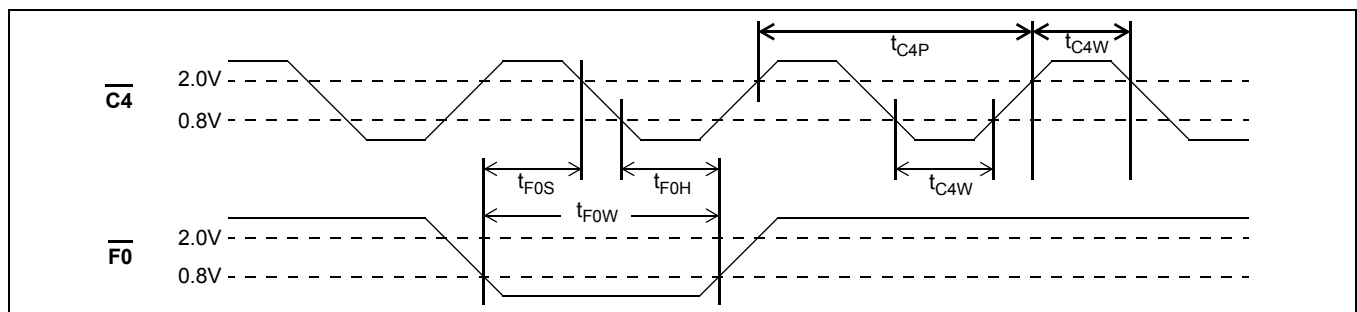
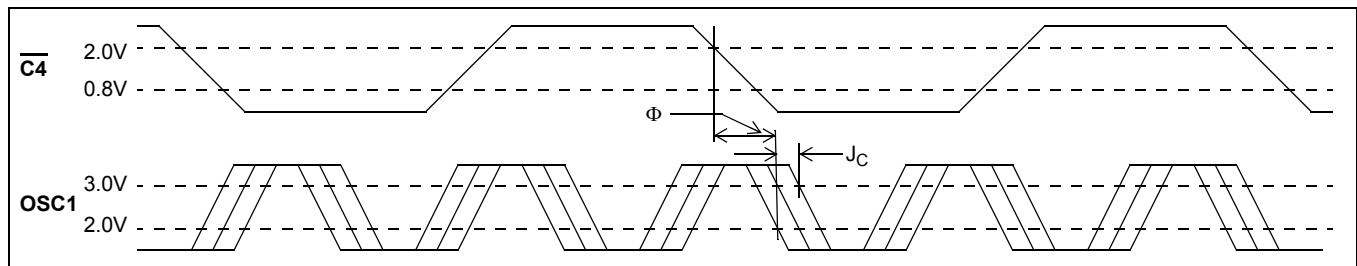

Figure 16 - $\overline{C4}$ Clock & Frame Pulse Alignment for ST-BUS Streams in DN Mode
Figure 17 - Frequency Locking for the $\overline{C4}$ and OSC1 Clocks in MAS/DN Mode
AC Electrical Characteristics[†] - Clock Timing - DN Mode (Figure 16 and Figure 17)
2) When operating in MAS/DN Mode, the $\overline{C4}$ and Oscillator clocks must be externally frequency-locked (i.e., $F_C = 2.5f_{C4}$). The relative phase between these two clocks (Φ in Figure 17) is not critical and may vary from 0 ns to t_{C4P} . However, the relative jitter must be less than J_C (see Figure 17).